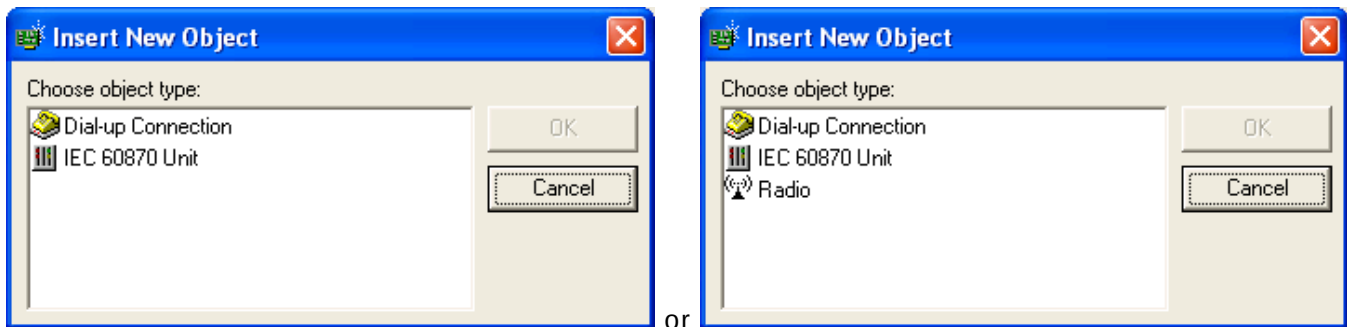

Figure 37 - Insert New Object Window
2. The **Insert New Object** window (Figure 37) appears.